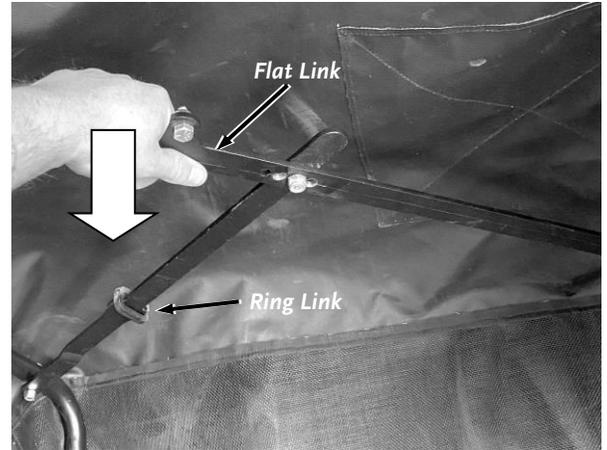

Figure 39
2. Set the Inner Scissor Link assembly width by pushing down on the flat link until both parts come to parallel. When parallel, slide the ring link across to prevent the scissors from coming apart (**Figure 39**).